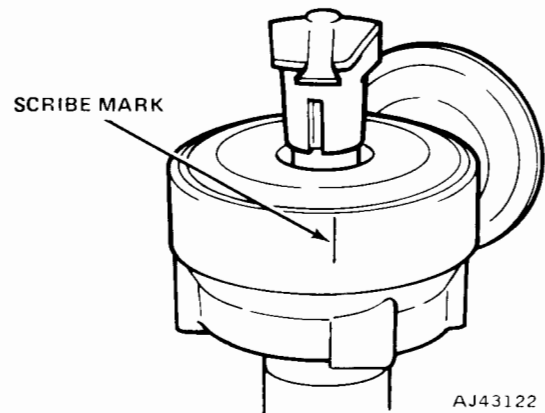

Fig. 3-56 Rotor Position Reference Mark
(1) Unfasten distributor cap retaining clips. Remove distributor cap with high tension cables and position it out of the way.
(2) Disconnect vacuum hose from distributor vacuum advance unit.
(3) Disconnect distributor primary wiring connector.
(4) Scribe a mark on distributor housing in line with tip of rotor (fig. 3-56) and note position of rotor and distributor housing in relation to surrounding engine parts as reference points for installing distributor.
(5) Remove distributor holddown bolt and clamp.
(6) Withdraw distributor carefully from engine.